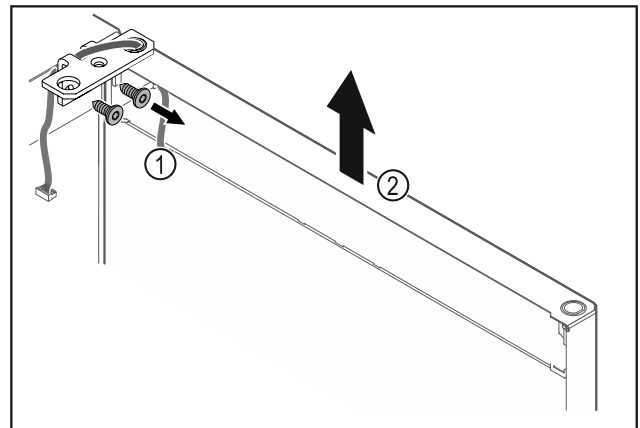

Fig. 19
- ▶ Unscrew the hinge Fig. 19 (1).
- ▶ Lift the door with the hinge straight up by Fig. 19 (2) roughly 200 mm and take it off.